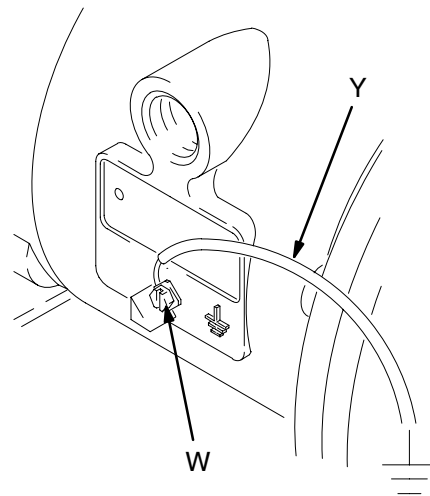

Fig. 1
- *Pump:* Connect a ground wire and clamp as shown in Fig. 1. Loosen the grounding screw (W). Insert one end of a 12 ga (1.5 mm2) minimum ground wire (Y) behind the grounding screw and tighten the screw securely. Connect the clamp end of the ground wire to a true earth ground. Order Part No. 222011 Ground Wire and Clamp.